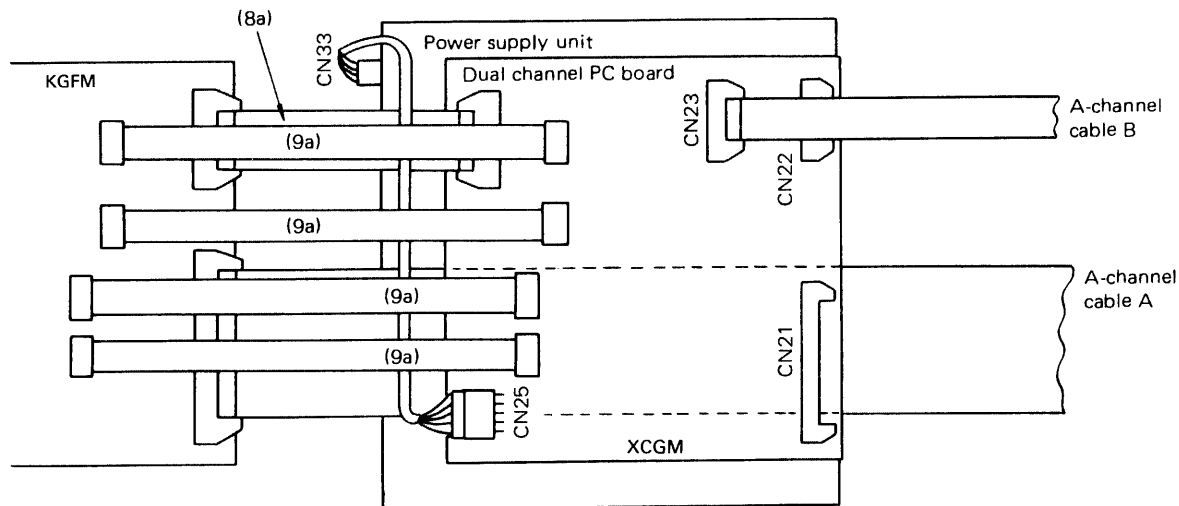

Figure 3-5-16 Dual Channel Cabling
- ⑦ Connect CN25 on the PC board and CN33 on the power supply unit with the connection cable (B660-0625-T329A). (See Figure 3-5-16.)
- ⑧ Connect interface cables (8a and 9a) between the drive unit (KGFM) and the dual channel PC board.
- ⑨ Connect the A-channel cable B to the PC board, and pull the cable out behind the power supply unit.
- ⑩ Remove the dual channel PC board from the rails and connect the A-channel cable A to the drive unit (KGFM), and pull the cable out under the dual channel PC board and behind the power supply unit.
- ⑪ Connect B-channel cables A and B to the back of the PC board (CN21 and CN22) and pull them out behind the power supply unit.
- ② Connect the drive unit (KGFM) to the PC board via the cable as shown in Figure 3-5-16.
- ③ Insert cover between frame and the equipment from the front of the equipment, and fix cover.
- ④ Fix the frame with PCB with two screws (SBD M3 x 5).
- ⑤ Connect A-channel cable B (CN23).
- ⑥ Attach cover 3b in the frame and fix with screw (SBD M4 x 6).
- ⑦ Connect all other interface cable to channels A and B.
- ⑧ When mounting the optional fan unit to the drive unit, fix the interface cable with the attached cable clamp.